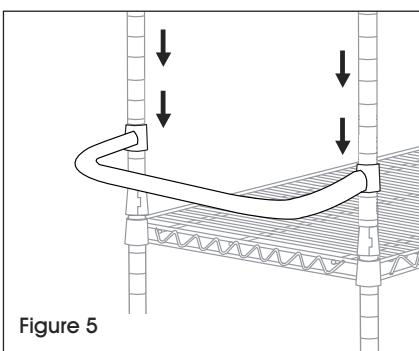

Figure 5
6. Snap on 2 shelf supports in the grooves directly above the 4th shelf. Add and secure push handle. (See Figure 5)